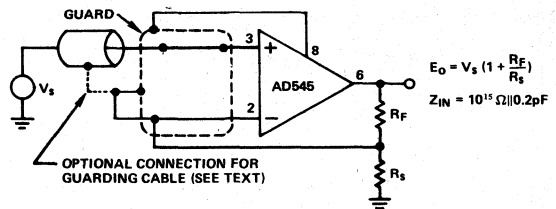

Figure 2. Very High Impedance Non-Inverting Amplifier
2. The use of guarding techniques is essential to realizing the capability of the low input currents of the AD545. Guarding is achieved by applying a low impedance bootstrap potential to the outside of the insulation material surrounding the high impedance signal line. This bootstrap potential is held at the same level as that of the high impedance line; therefore, there is no voltage drop across the insulation, and hence, no leakage. The guard will also act as a shield to reduce noise pickup and serves the additional function of reducing the effective capacitance to the input line. The case of the AD545 is brought out separately to pin 8 so that it can also be connected to the guard potential. This technique virtually eliminates potential leakage paths across the package insulation, provides a noise shield for the sensitive circuitry, and reduces common-mode input capacitance to about 0.2pF. Figure 10 shows a proper printed circuit board layout for input guarding and connecting the case guard. Figures 2 and 3 show guarding connections for typical inverting and non-inverting applications. If pin 8 is not used for guarding, it should be connected to ground or one of the amplifier's power supplies to reduce noise.